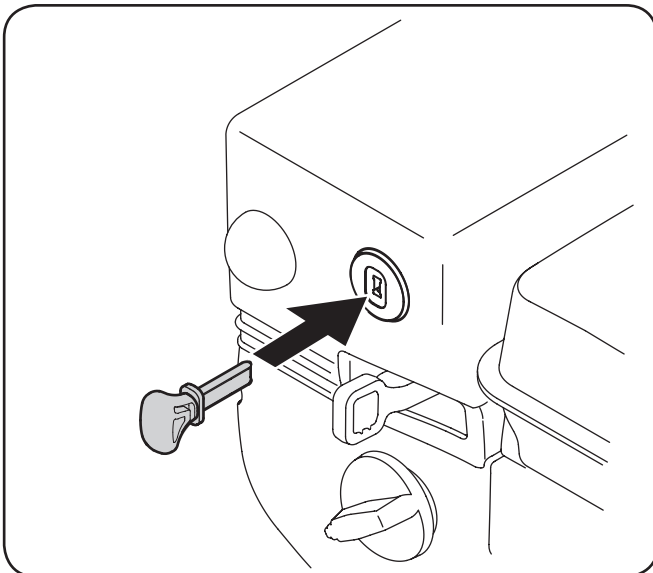

Figure 5-1
2. Insert key fully into slot, Fig. 5-1. Make sure it snaps into place. **DO NOT** turn key. The engine cannot start unless the key is inserted into ignition switch.